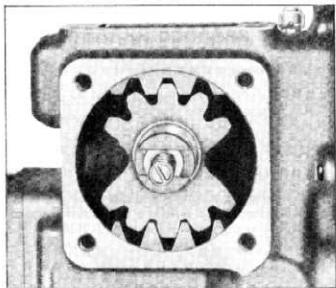

Fig. 49—Installing Pitman Shaft
- c. Install pitman shaft so that center tooth in each set of sector gear teeth meshes with the center grooves of ball nut and power rack (fig. 49).